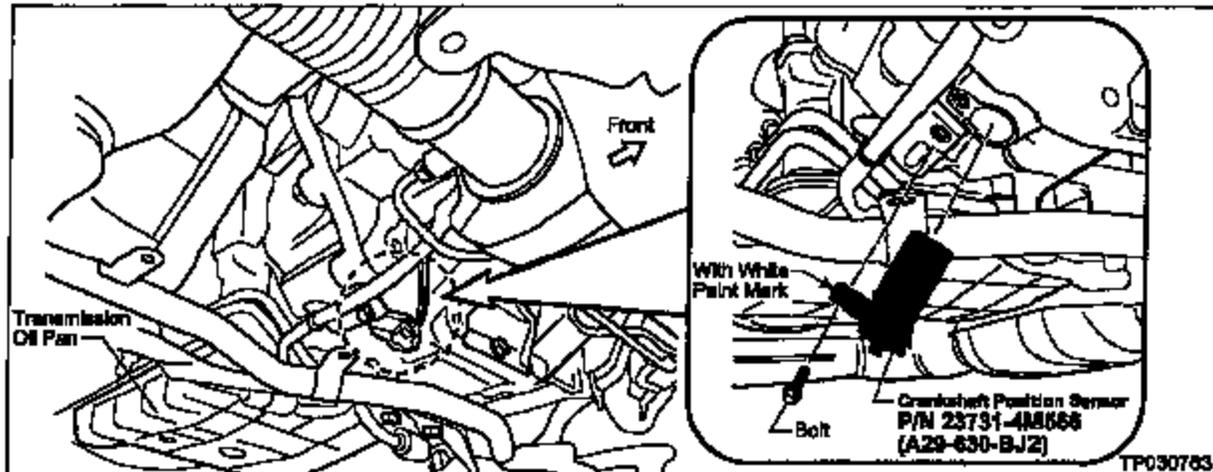

Figure 17
* This sensor has a white paint mark on it (see Figure 17, next page).
3. Locate the Crankshaft Position Sensor (see Figure 17).